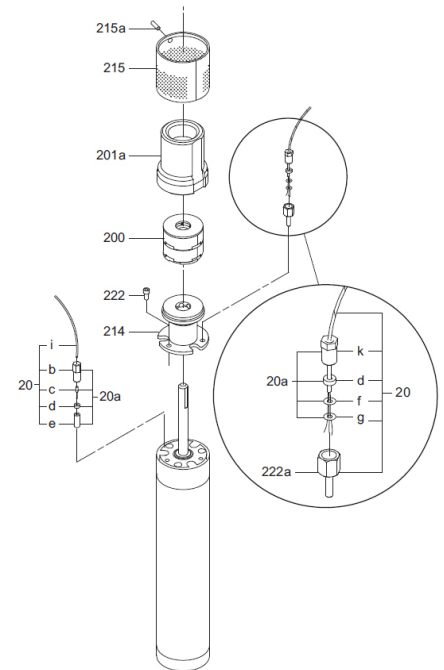

Fig. 1 MP 1/Redi-Flo2 pump components
Slacken and remove the screw, pos. 215a, together with the strainer, pos. 215. See fig. 1.
Pull positions 20b, 20d and 20e on the three leads (phases) of the motor cable. On the earth lead (yellow/green), the order is pos. 20k, 20d and 20f. See fig. 1.
Bend the stripped end of the earth lead. See fig. 1.